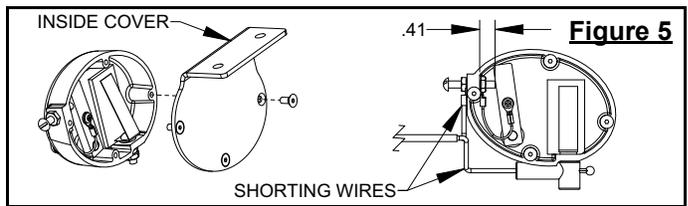

Figure 5
1. Assemble wire harness (8) to both screws on safety switch (13) and reset screw height as shown in Figure 5.